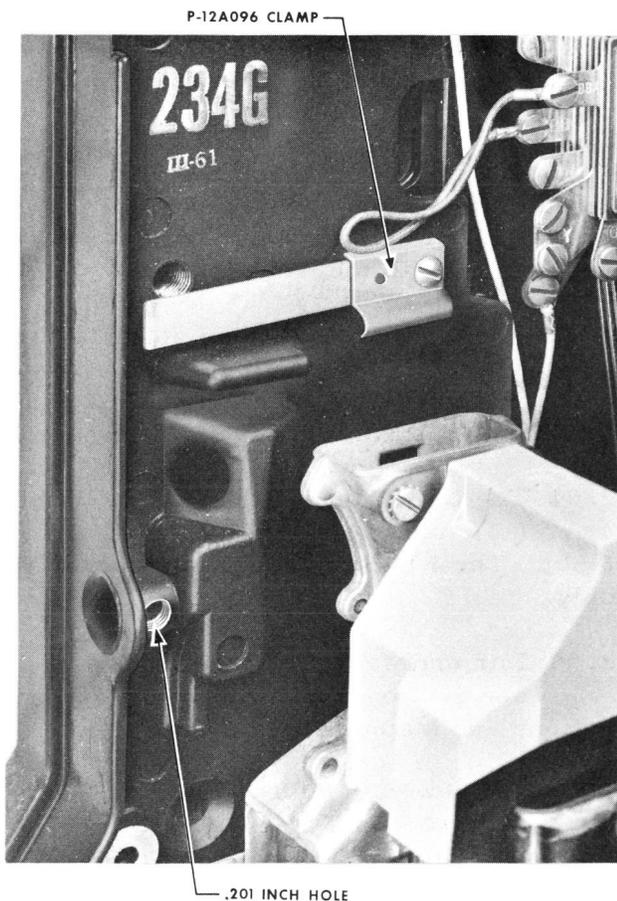

Fig. 2 - Location of .201 Inch Hole
4. Using a small center punch and hammer, mark hole to be drilled and tapped in the coin collector backplate. This hole is to be located in the cord entrance tube halfway between the outer beveled edge of the coin collector and the left edge of the cord chamber (Fig. 2).
5. Drill hole located in step 4 with a #7 drill (Fig. 2).